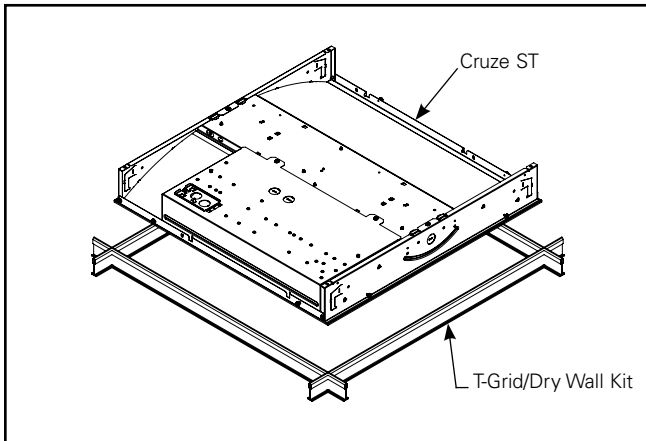

Figure 1.
2. Place fixture on the T-Grid. Make sure edges of front lens are covered by T-Grids (Figure 1).